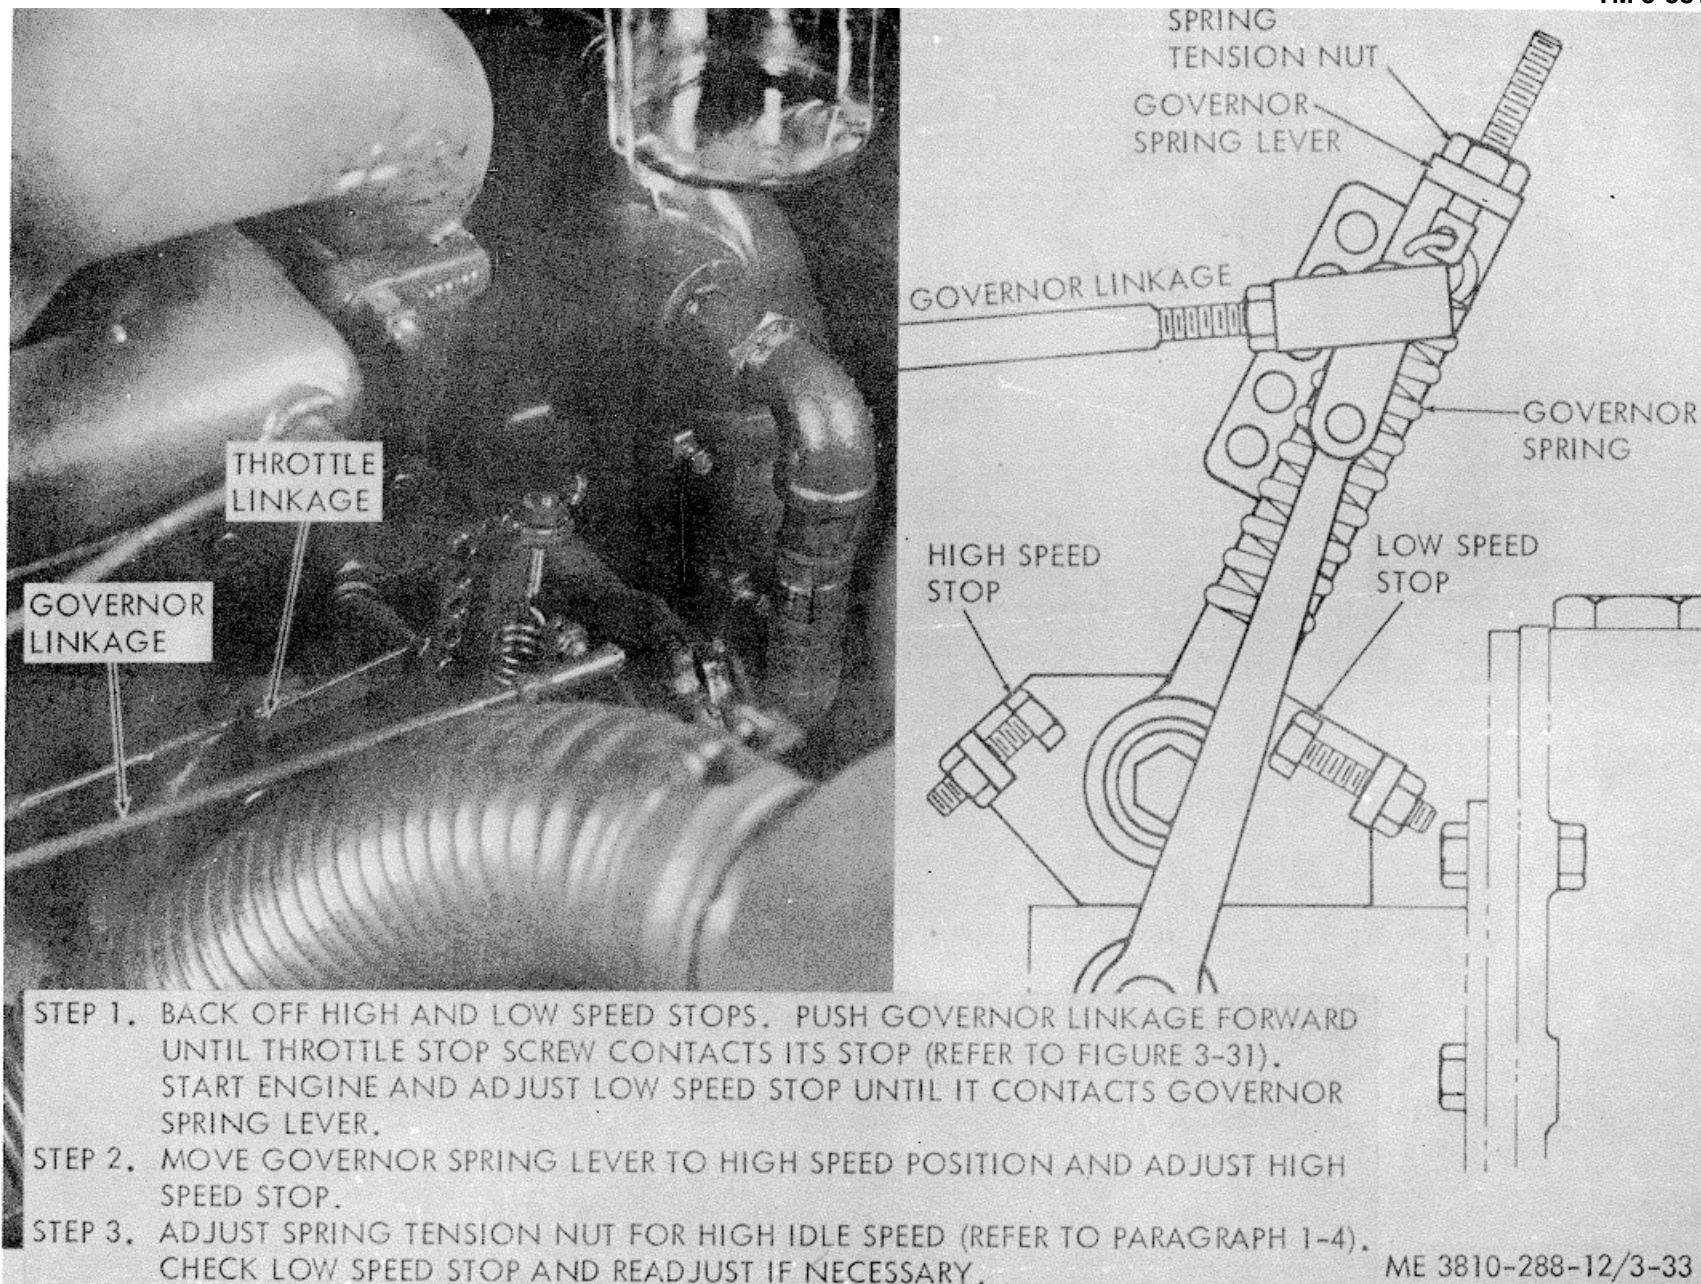

Figure 3-33. Engine speed governor adjustment.
(1) *Adjustment.* Refer to figure 3-33 and adjust the engine speed governor.
(2) *Repair.* The flexible control cable from the hand throttle lever is attached at the opposite end to the engine speed governor lever. Refer to figure 3-33. Remove necessary cable dampers and remove the flexible control cable, figure 3-37. Install a new control cable. Attach to the lowest hole on the governor lever. Attach to the second hole from the end of the throttle lever.